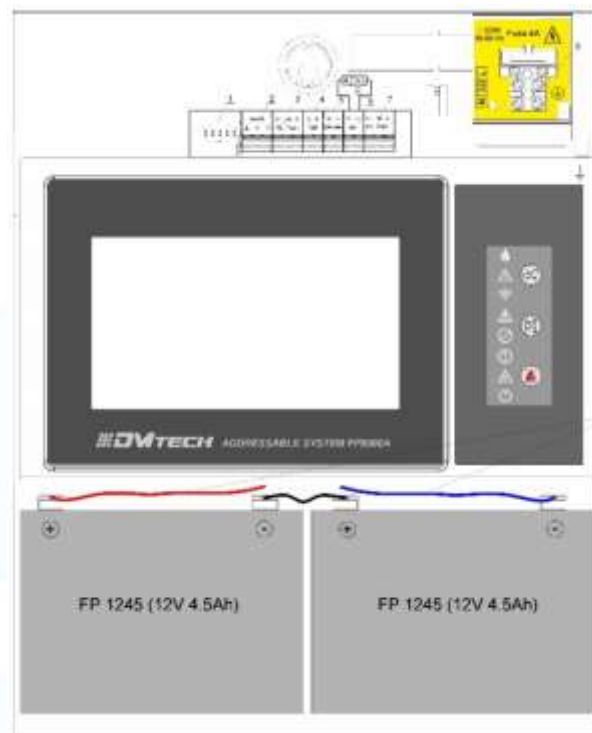
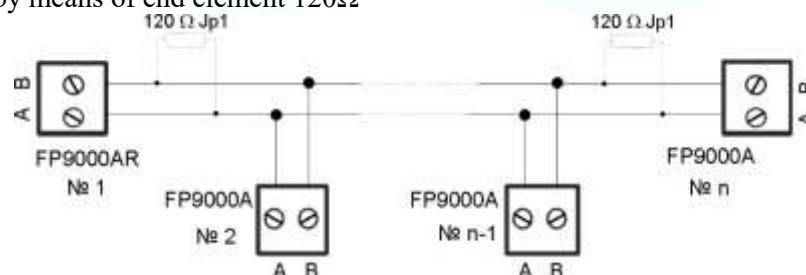

Fig. 4
Fig. 5
5.4. Terminal order on the panel - In fig. 4 with positions 1-8 show the main connections of the repeater with the periphery controlled by it.
5.4.1. Main functions of the panel - a brief description of the main positions in fig.4
- pos. 1 – light indication of current status
- pos. 2 – RS 485 (E, A, B) - Used to connect the repeater to centrals. Holds up to 16 panels. The connection direction A-A must be observed; B-B; Shown in Fig.5.
- pos. 3 – Pins NC (Normally Closed Contact), NO (Normally Open Contact), C on Fault Relay
- pos. 4 – A B (REP) – For connection between two repeaters
- pos. 5 – Power supply +/- 28V
- pos. 6 – Controllable output. Controlled by panel settings, line integrity monitors. A 4.7k Ω terminal element is required
- pos. 7 – Terminals NC (normally closed contact), NO (normally open contact), C relay Fire – activated in "Fire Alarm" mode Terminals NC (normally closed contact), NO (normally open contact), C